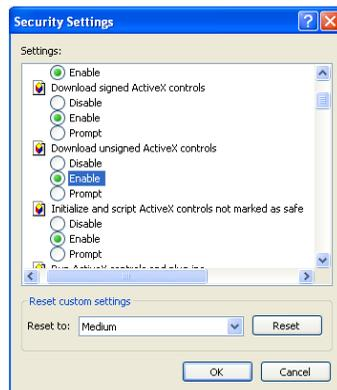

Fig 8-2
Step 3: Enable all the sub options under “ActiveX controls and plug-ins”. Refer to Fig 8-2